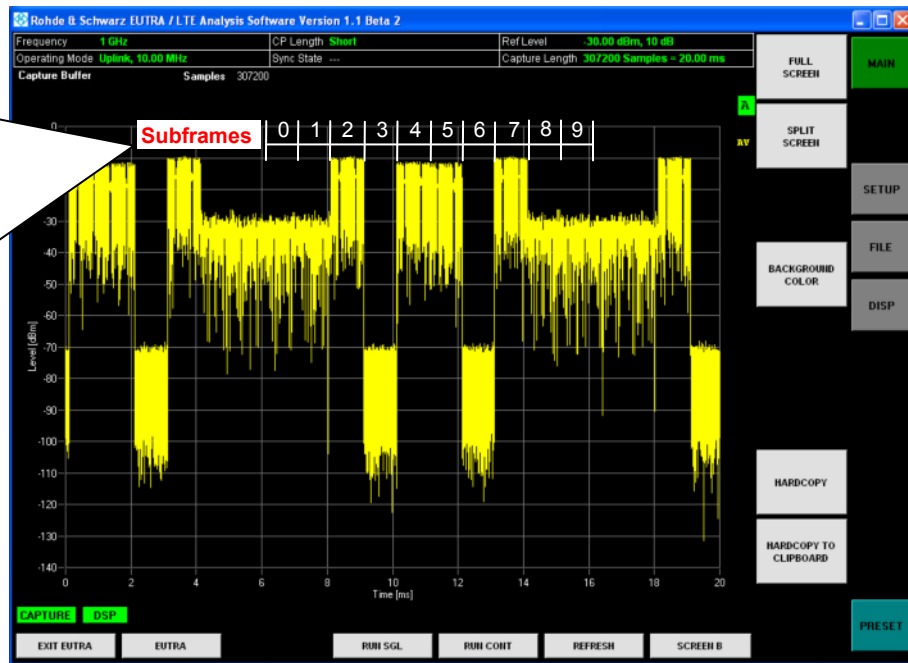

Figure 5-9 Analyzing EUTRA/LTE UL signals – Power vs. Time
1. Power vs. Time (Figure 5-9)